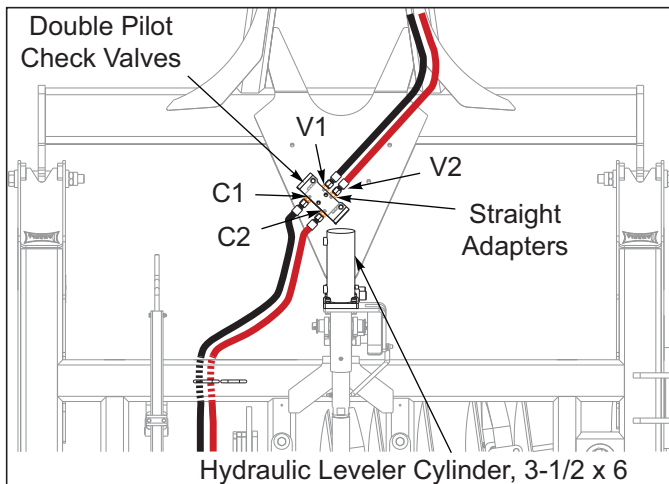
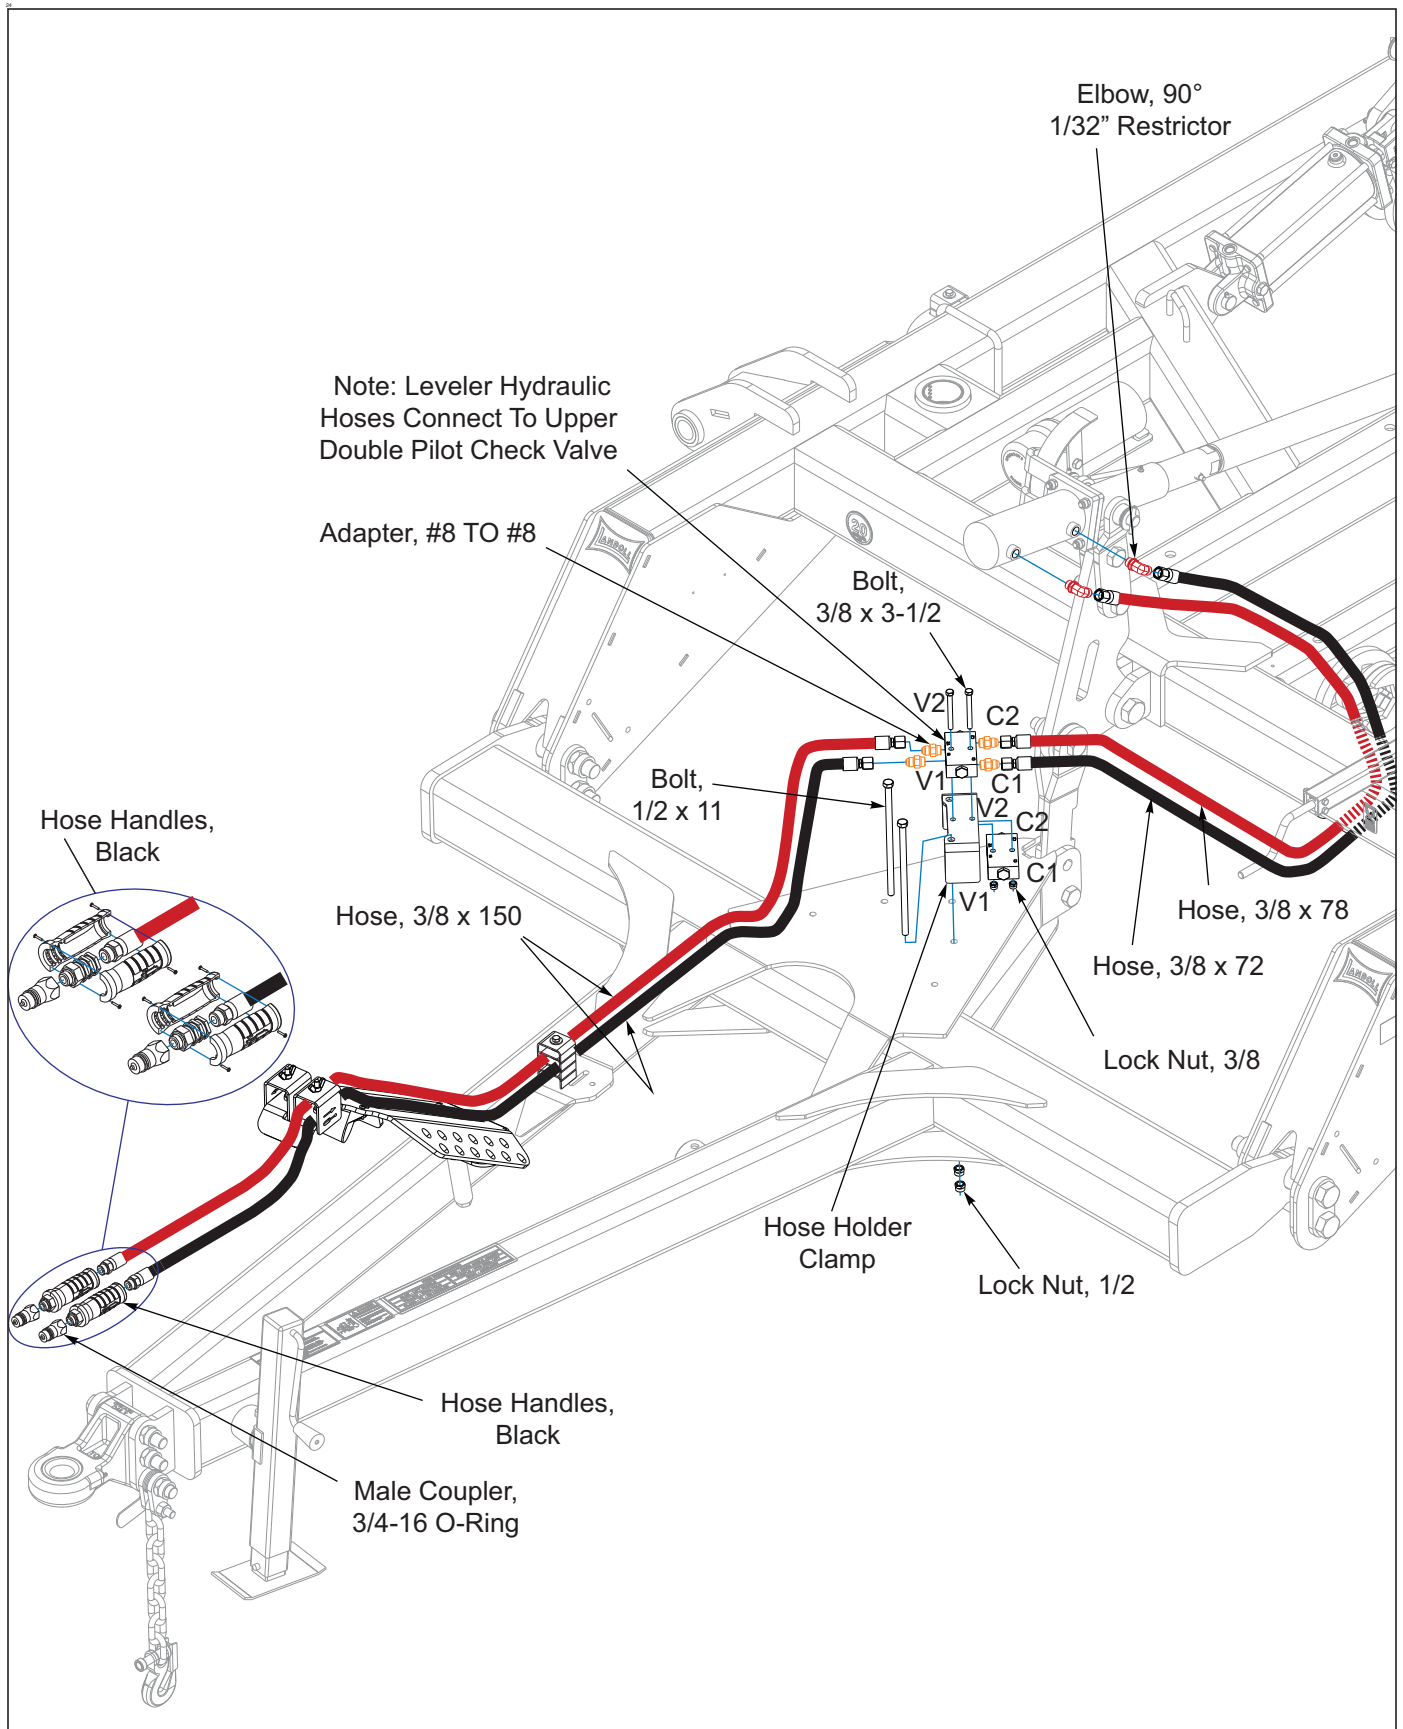

Figure 3-7: Check Valve Placement
Figure 3-36: Leveler Hydraulic Installation
2. At the rear of the hitch **See Figure 3-7** there will be two identical valves installed (Double Pilot Operated Check Valves) with 3/8 x 3-1/2" bolts and nuts onto the hose clamp. Install these valves with the V1/V2 ports facing the tractor and the C1/C2 Ports facing the rear. Install straight o-ring adapter fittings into each of the 8 outlets. When plumbing the hydraulic disc gangs or the leveler it does not matter which hose goes to C1/C2 or V1/V2, leveler hydraulics **upper valve, See Figure 3-43** or gang hydraulics **lower valve, See Figure 3-36 7531-23'/26'/29'/32'/35'**), just so they are facing the correct direction and hooked to the cylinder or the tractor correctly.
8. Install Leveler cylinder hoses, couplers and black hose handles **See Figure 3-36**.